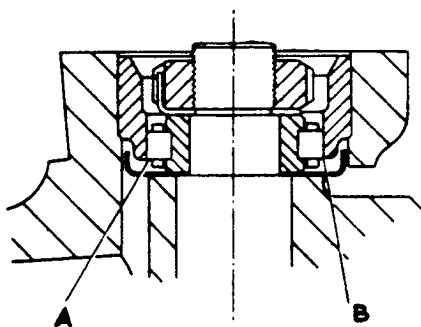
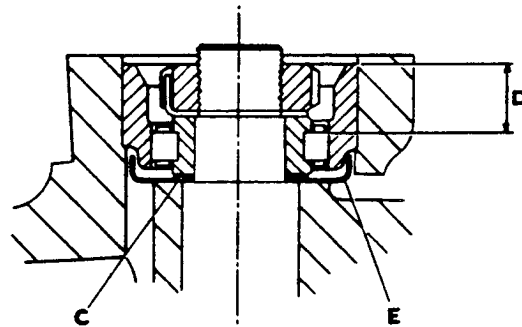

FIG. 1.
FIG. 2.
Whenever the stub axles have to be removed from a car for re-conditioning purposes as described in Sub-Section EK-2, of the Workshop Manual, opportunity must be taken during the re-assembling operations to check the inner roller race fitted to the upper end of the pivot pin for correct height in relation to its outer race. A condition can arise whereby the lower end of the rollers (A Fig.1) protrude below the lower edge of the outer race, i.e. at point 'B' due to an accumulation of adverse limits of machined parts. Fig. 2, shows the correct position of the rollers, i.e. the lower end face of the rollers are well above the lower edge of the outer race.
- (iii) Place a small straight-edge across the top face of the outer race of the upper roller bearing assembly of the pivot pin (not across the top face of the stub axle). With the rule of a small depth gauge, measure the distance downwards from the top face of the outer race to the top face of one of the rollers (not the brass roller cage), i.e. dimension 'D' Fig. 2 and note.
- b) If dimension 'D' is between the limits of .480" - .515" (12.2-13 m/m), then it will be necessary to remove the pivot pin and fit a .040" (1 m/m) thick packing washer ('C' Fig.2), Part No.R-4468, between the oil trough ('E') and the inner roller race.